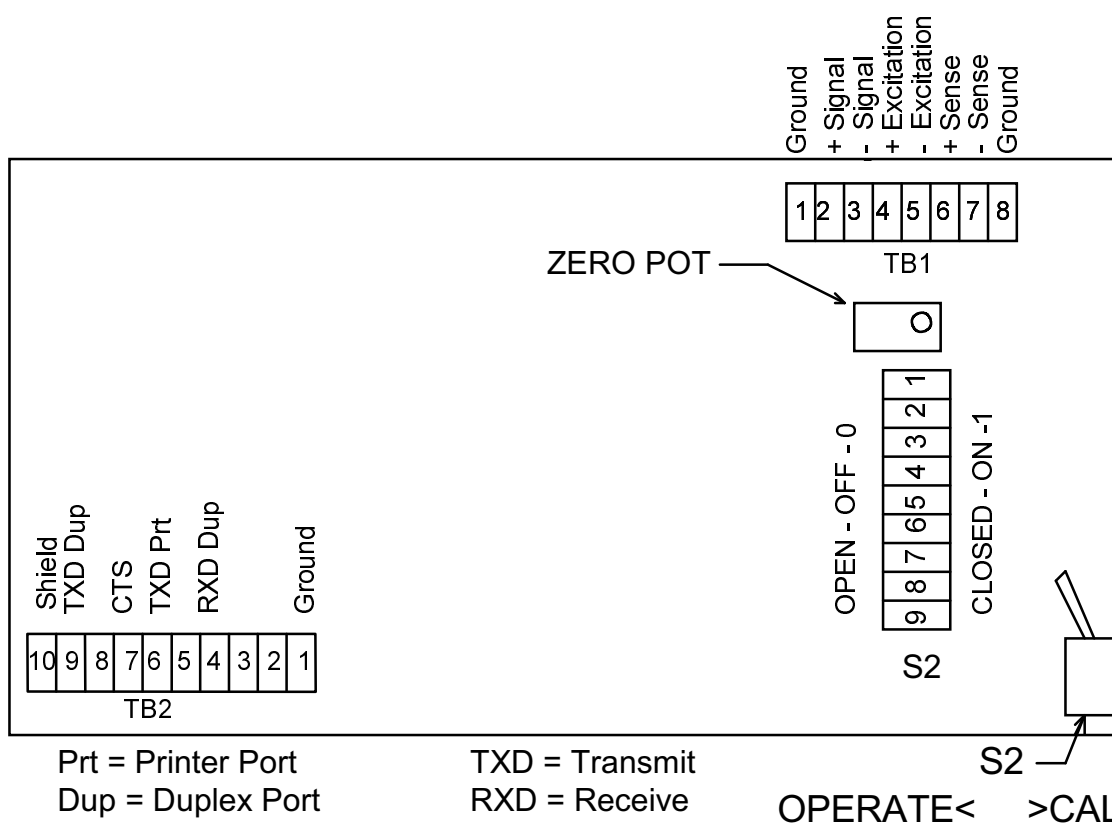

Figure 2. 4200 Main Board Connections and Switches
There are two communication ports on the Model 4200, a bi-directional (duplex) serial port and an output-only serial printer port. Both ports are default configured as RS232 and the default connections are shown in figure 2. Other configurations are available and can be ordered as required or configured as stated in Section 12.
**Model 4200M:** Remove the rectangular access panel on the rear of the indicator by removing the six hex head screws holding it in place. Locate S2 - position 9 using figure 2. Move this switch to the closed position to enter the setup menu.
**Model 4200RSS:** Loosen the front cover latches and open the front cover. Locate S1 on the main board using figure 2. Flip S1 to enter the setup mode.